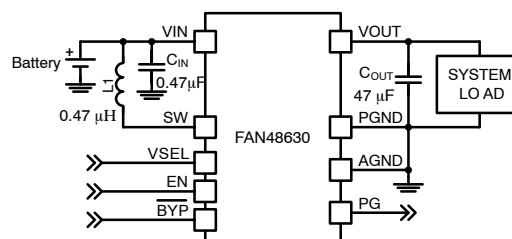

Figure 1. Typical Application
**Table 7. ELECTRICAL CHARACTERISTICS** Recommended operating conditions, unless otherwise noted, circuit per Figure 1,  $V_{IN} = 2.35\text{ V}$  to  $5.5\text{ V}$ ,  $T_A = -40^\circ\text{C}$  to  $85^\circ\text{C}$ . Typical values are given at  $V_{IN} = 3.0\text{ V}$  and  $T_A = 25^\circ\text{C}$ .
The following table is verified by design and verified while using the following external components: L = 0.47  $\mu$ H, DFE201612C-R47M (Toko), CIN = 4.7  $\mu$ F, 0603 (1608 metric), C1608X5R0J475K (TDK), COUT = 47  $\mu$ F, 0603 (1608 metric), CL10A476MQ8CZNE (Samsung). These parameters are not verified in production. Minimum and maximum values are at VIN = 2.5 V to 5.5 V, TA = -40°C to +85°C; circuit per Figure 1, unless otherwise noted. Typical values are at TA = 25°C, VIN = 3.0 V, VOUT = 3.6 V, VEN = 1.8 V.